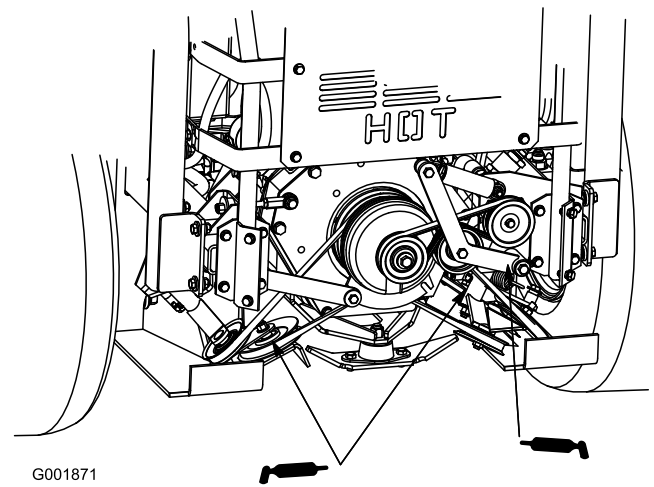

Figure 39
1. Grease the cooling fan belt idler arm (Figure 39).
2. Grease the drive belt idler arms (Figure 39).